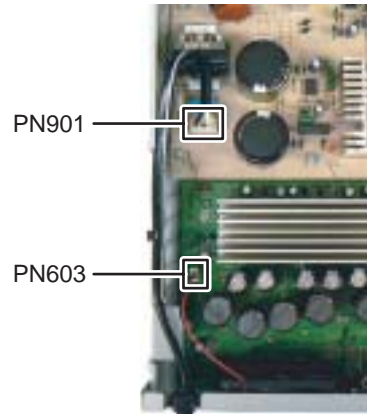

Fig.10
### 3.1.5 Removing the Rear panel (See Fig.10, 11)
- (1) Disconnect the Power cord from connector PN901 of the SMPS board. (See Fig.10)
- (2) Disconnect the connector wire from FAN connected to connector PN603 of the Amp board. (See Fig.10)